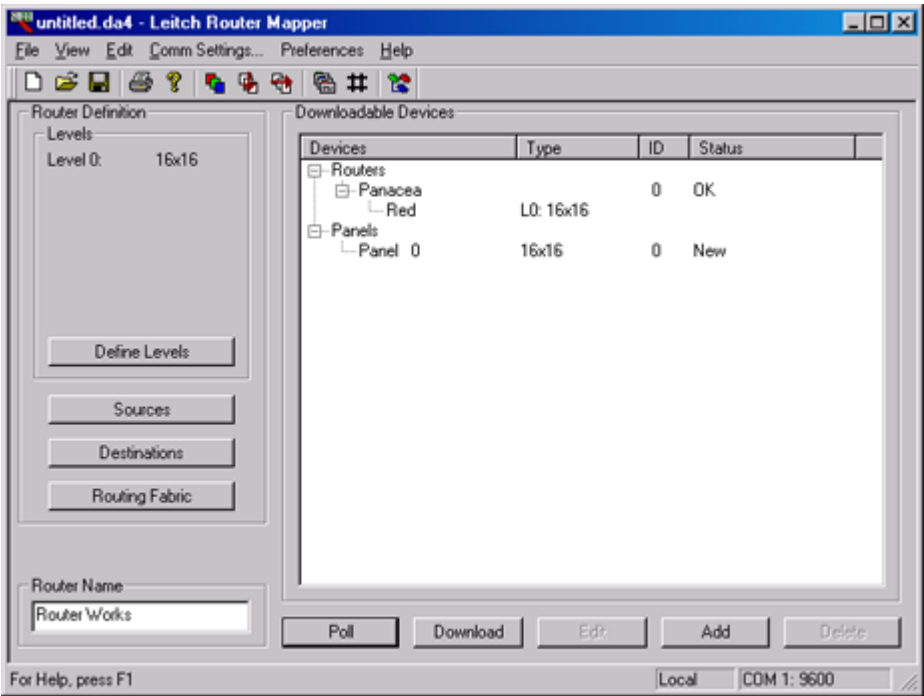

Figure 2. Main Menu Window Display
7. Click on **Poll** to add the Panacea router to the database. (This may take a few minutes.) The results for the router and control panel should resemble the information shown in Figure 2.